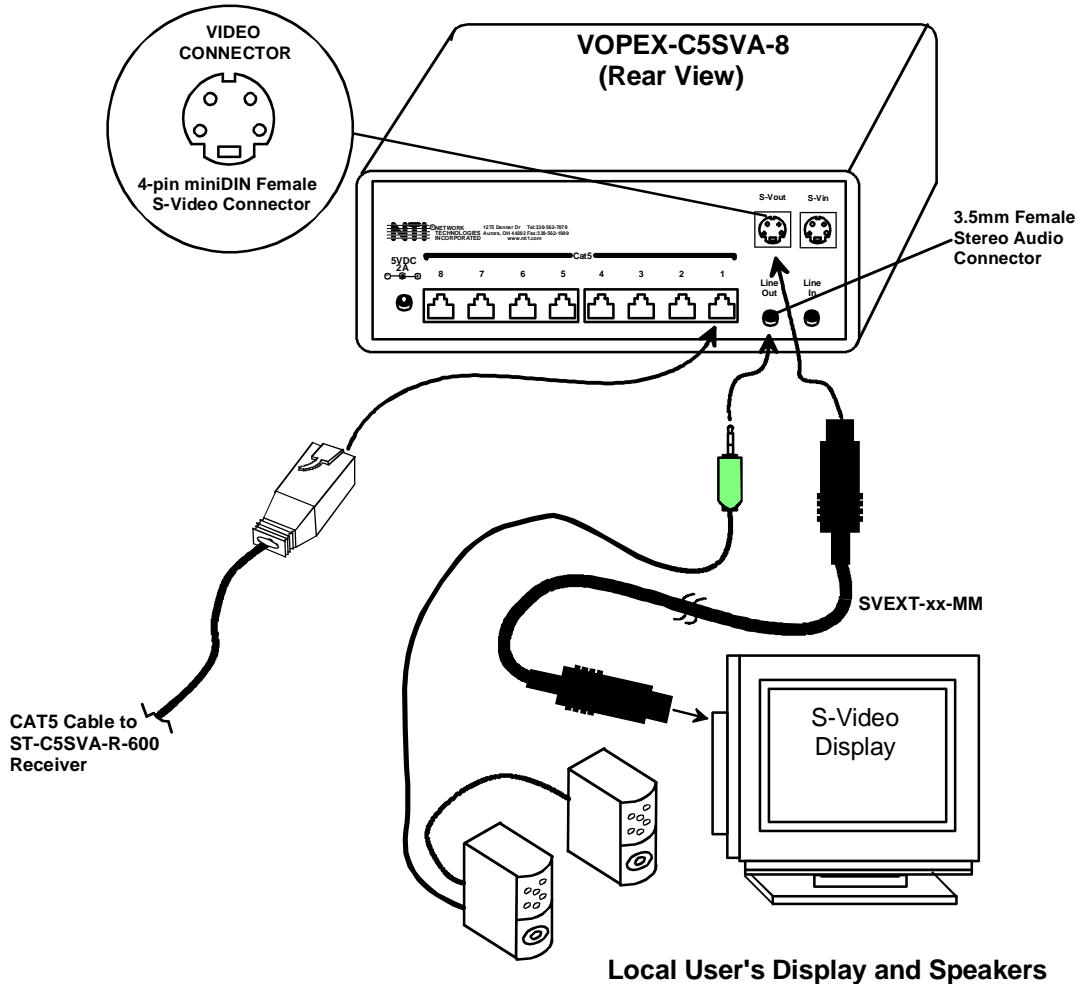

Figure 2- Connect Local User components and CAT5 cable to VOPEX-C5SVA-8
2. Connect the local user to the VOPEX-C5SVA-x (see Fig. 2)
3. Connect a CAT5 cable to any one of the "Cat5x" ports on the VOPEX-C5SVA-x. (See Fig. 2.) When properly inserted the cable end should snap into place.